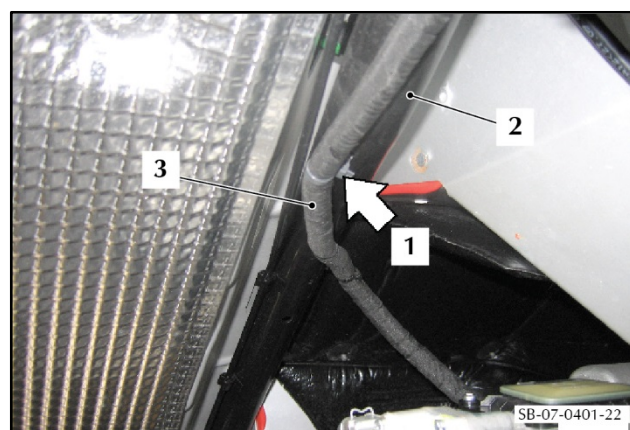

Figure 51
101. Use the transmission lift to lift the transaxle sufficiently to install the clip (1) that attaches the electrical harness (2) to the subframe (3) (refer to Figure 51).